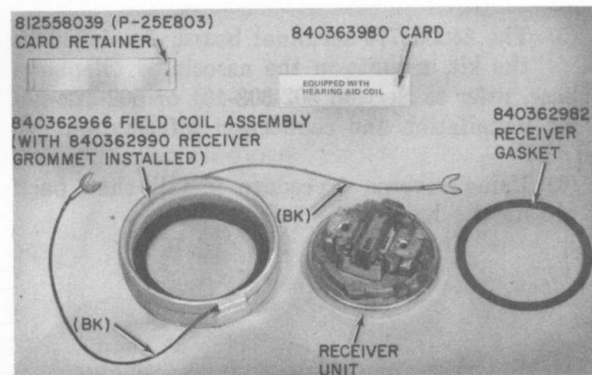
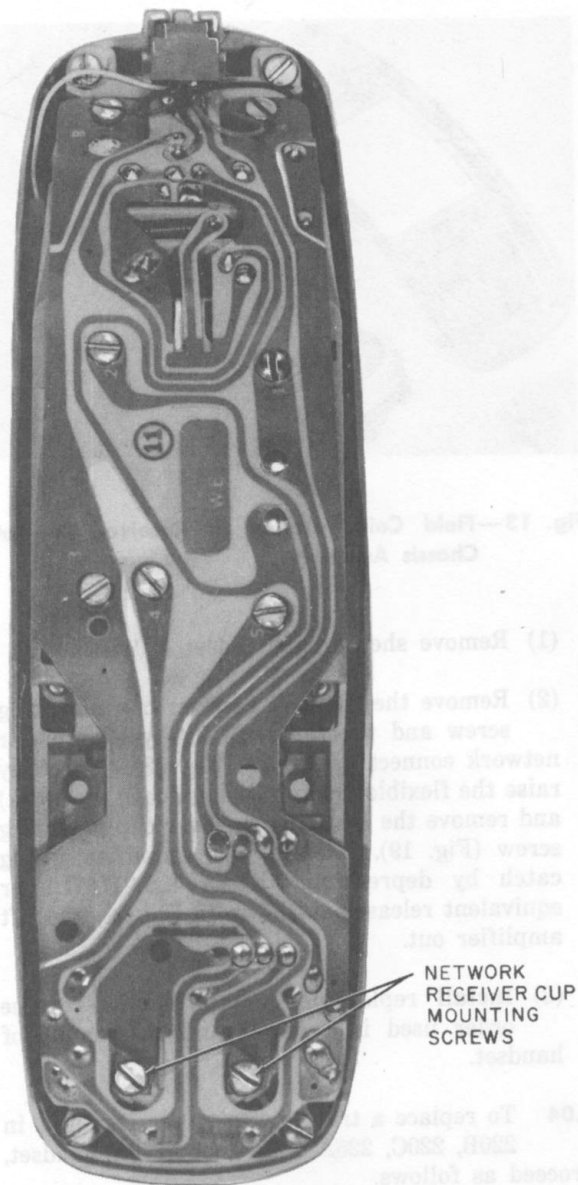

Fig. 10—D-180719 Kit of Parts and Receiver Unit
Fig. 14—2220C Hand Telephone Set Showing Location of Network Mounting Screws
- (3) Remove the receiver retainer and grommet from the receiver unit and **discard only the retainer and grommet.**
- (4) From the kit of parts (Fig. 10) install the receiver grommet in the field coil assembly with the lip of the grommet protruding outside the assembly.
- (7) Loosen the two (2) network receiver cup mounting screws (Fig. 14) on back side of the receiver cup. Terminate one (1) of the black (BK) coil leads under each screw (Fig. 15).
- (8) Reassemble the handset.
- (9) Install the card (Fig. 10) which identifies a coil equipped handset in location where the cover above the dial was removed. Place the (clear) card retainer over the card.